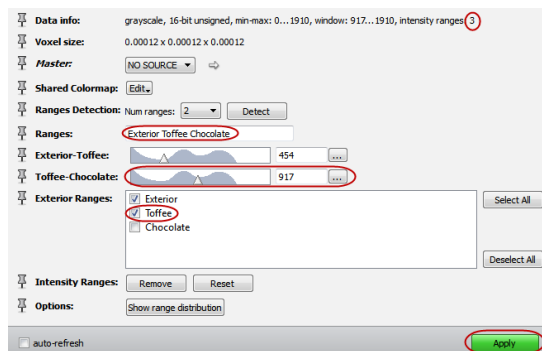

Figure 3.31: Modifying Intensity Range Partitioning
- Press the *Apply* button at the bottom of the Properties panel. *data info* and editor should be updated as shown in Figure 3.31.